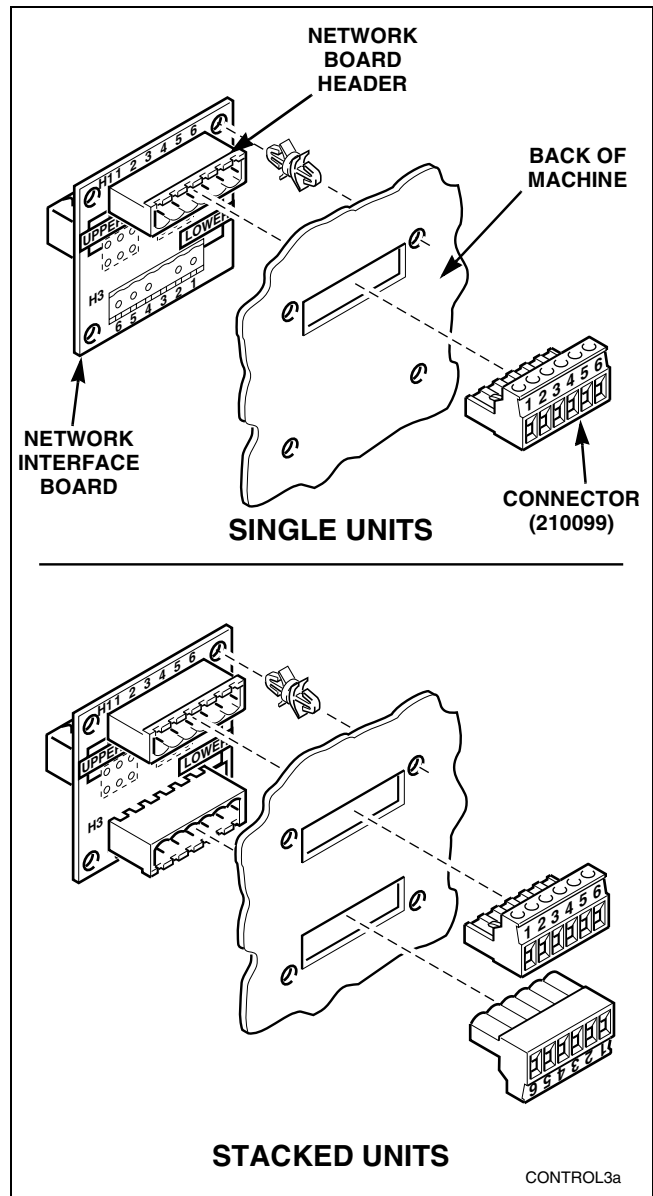

Figure 4
2. Locate the network board header on the back of the machine. refer to *Figure 4*